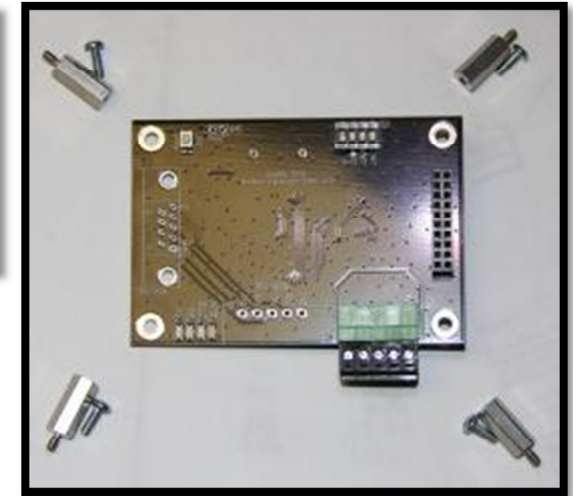

Figure 6
3. Remove the 4 machine screws and 4 standoffs from the new Modbus Card that you are about to install. See Figure 6.